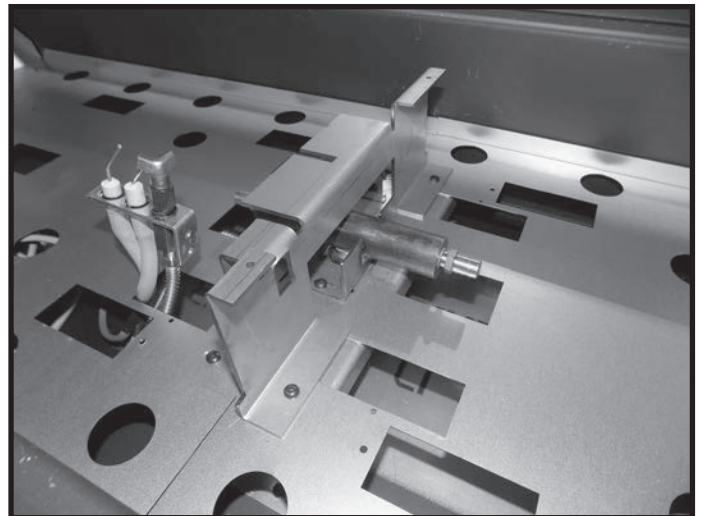

Figure 4: Securing the center leg.
3. Secure the center leg to the right hand secondary floor panel as shown in Figure 4.